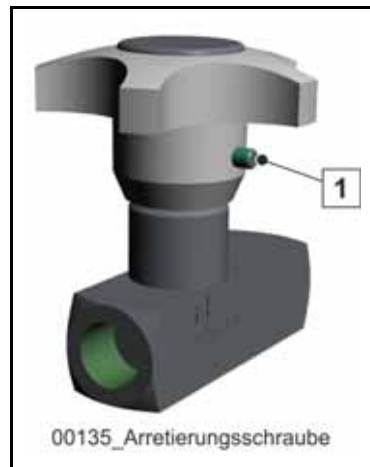

Fig. 305
- Loosen the locking screw (1) (**Fig. 305**) on the one-way restrictor
- Tighten the locking screw (1) (**Fig. 305**) on the one-way restrictor